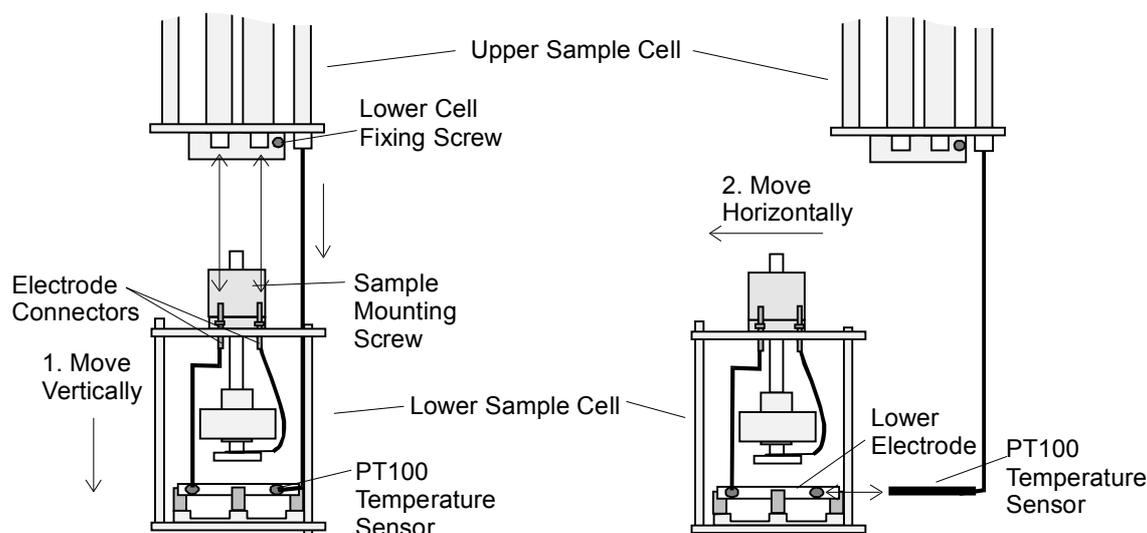

Fig. 10. Procedure of separating the lower sample cell from the upper cell.
- In a first step, slowly move the lower sample cell vertically to the upper sample cell as shown in fig. 10. While moving stepwise, pull the both **Electrode Connectors** out of the connection lines. The **PT100 Sensor** remains in the lower electrode at this time and shifts itself out of the upper sample cell. The PT100 can be shifted vertically by about 5 cm with respect to the upper sample cell, but can not be disconnected from the upper sample cell.